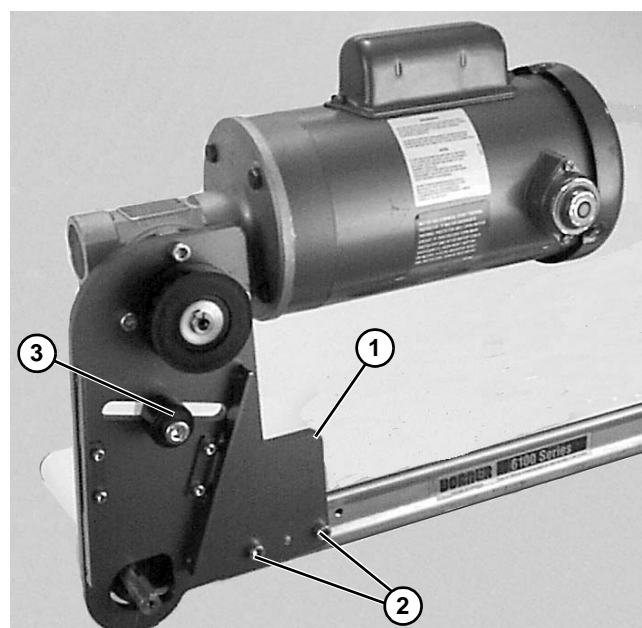
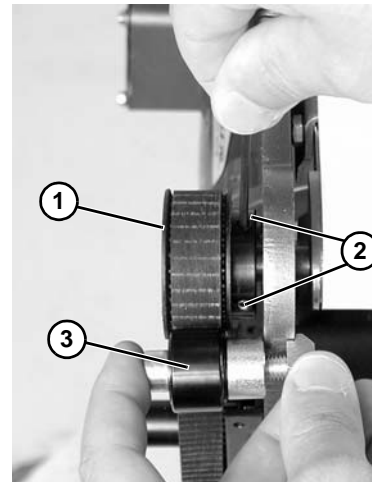

Figure 16
Figure 18
- Attach mount assembly (**Figure 16, item 1**) with screws (**Figure 16, item 2**). Tighten to 80 in-lb (9 N-m).
8. Remove cam bearing and spacer (Figure 16, item 3). Place the cam bearing and spacer (Figure 16, item 3) next to the driven pulley (Figure 18, item 1). Ensure the flanges of the driven pulley are aligned with the cam bearing. Tighten driven pulley set screws (Figure 18, item 2). This will allow for proper belt alignment while conveyor is in use. Replace cam bearing and spacer (Figure 18, item 3).